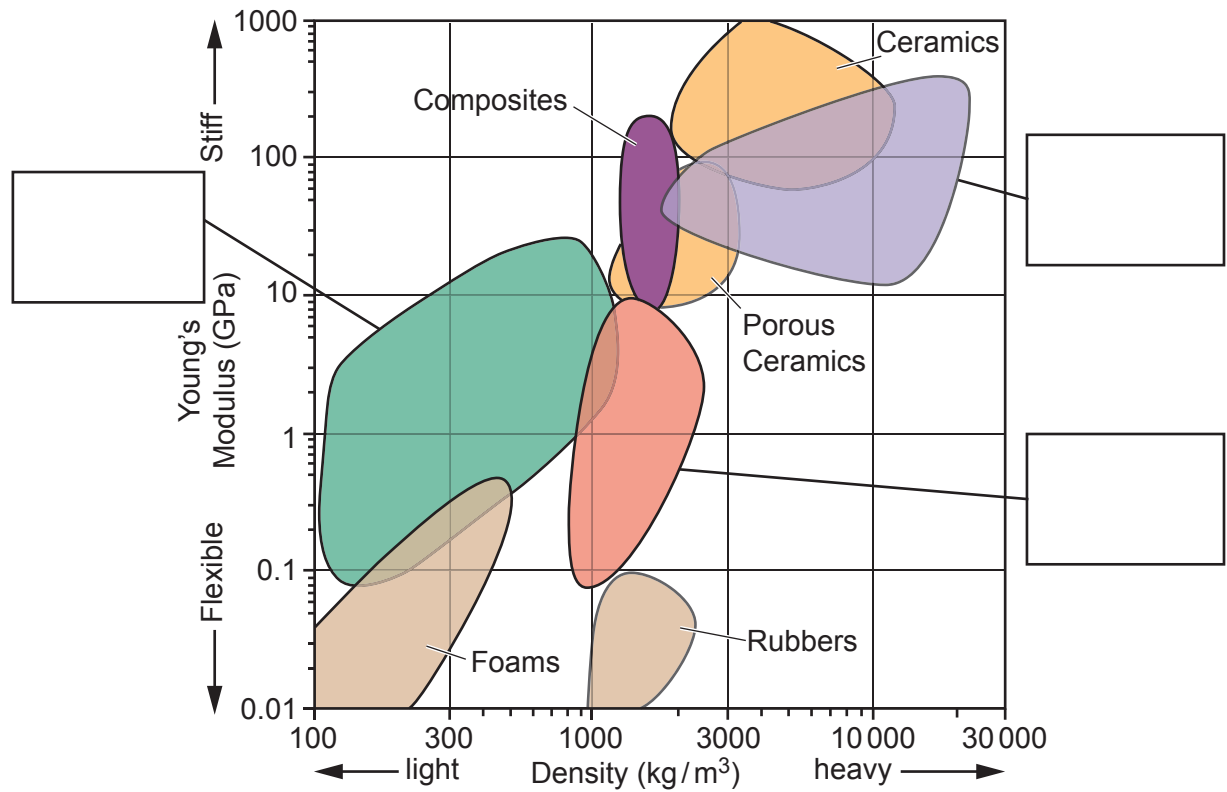

Fig. 3.2
- (b) The material selection chart in **Fig. 3.2** shows the different material groups and how they compare in terms of Density and Young's Modulus.
- (i) Complete the **three** missing material groups in **Fig. 3.2** above.